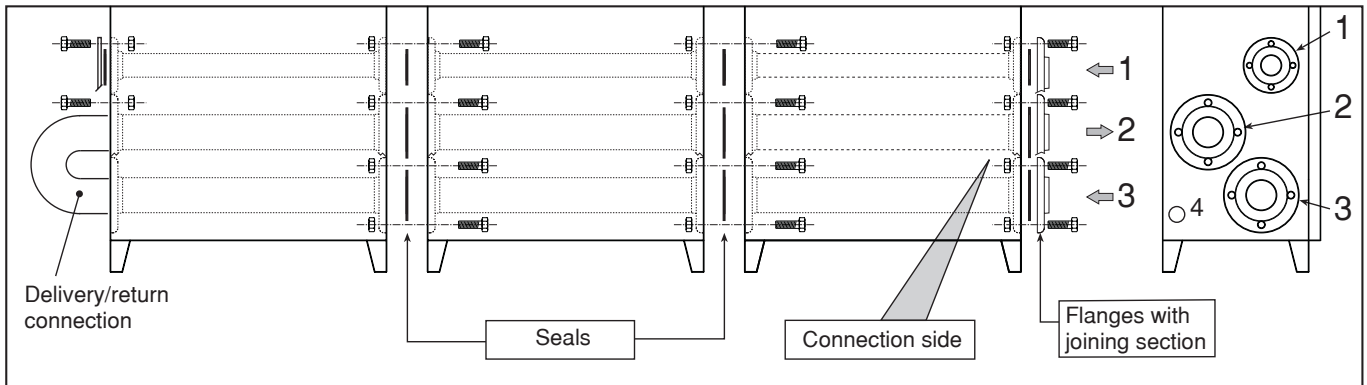

Fig. 6b
- Connect the delivery to the return on the last module (see Fig. 6b).